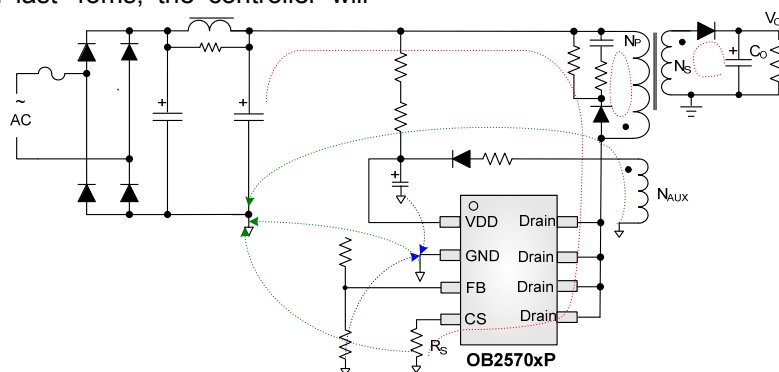

Fig.6 Flyback Schematic with OB2570xP
- **The Area of Power Loop:** The area of the main current loop should be as small as possible to reduce EMI radiation, such as the primary current loop, the snubber circuit and the secondary rectifying loop (Red wire as shows in Fig.6). Drain pin increases the copper area of the drain terminal for heat dissipation (Green region as shows in Fig.7). And the PCB trace must be wide and short for thermal consideration.
- **Bypass Capacitor and FB Divider Resistor:** The bypass capacitor on VDD and the FB divider resistor should be placed as close as possible to pin out. And the negative node of VDD capacitor and the FB down resistor should be connected directly to the IC GND pin before single point connected to the negative node of the output capacitor. (Blue wire as shows in Fig.6)